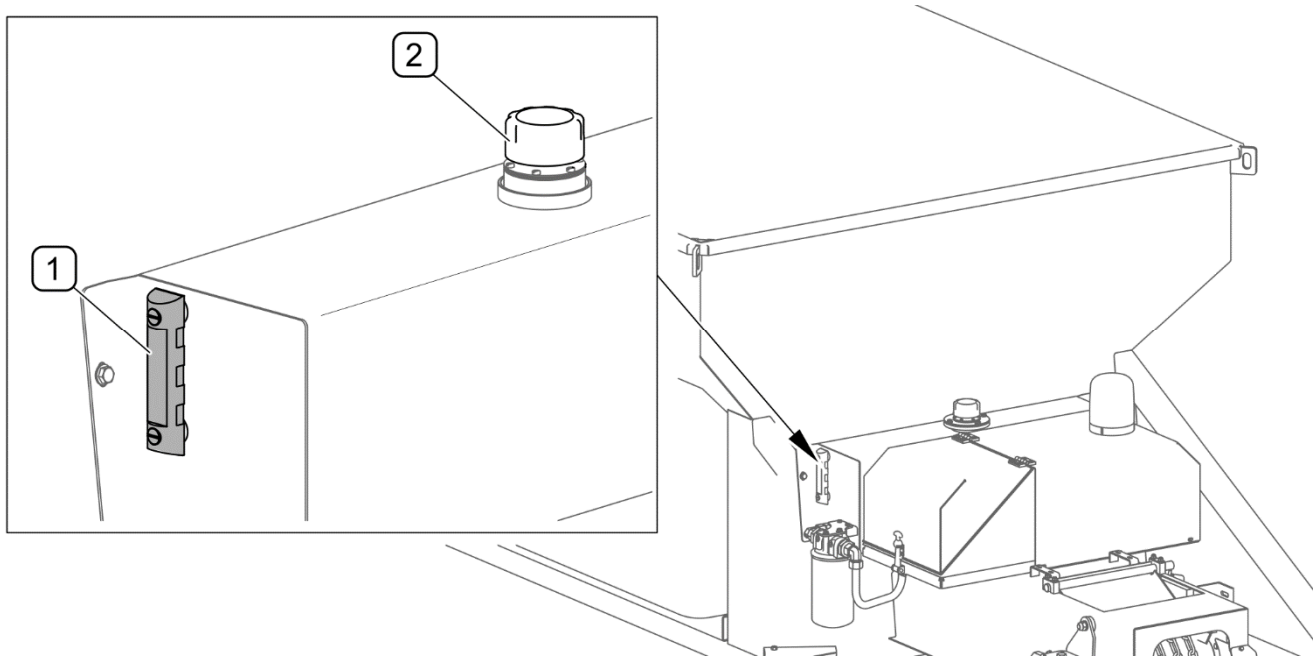

FIG. 5.1 Checking oil level in the hydraulic system tank
(1) - oil level indicator; (2) - filler plug
Oil level should be checked on oil level indicator (1) (FIG. 5.1). If necessary, add oil through the filler plug (2).